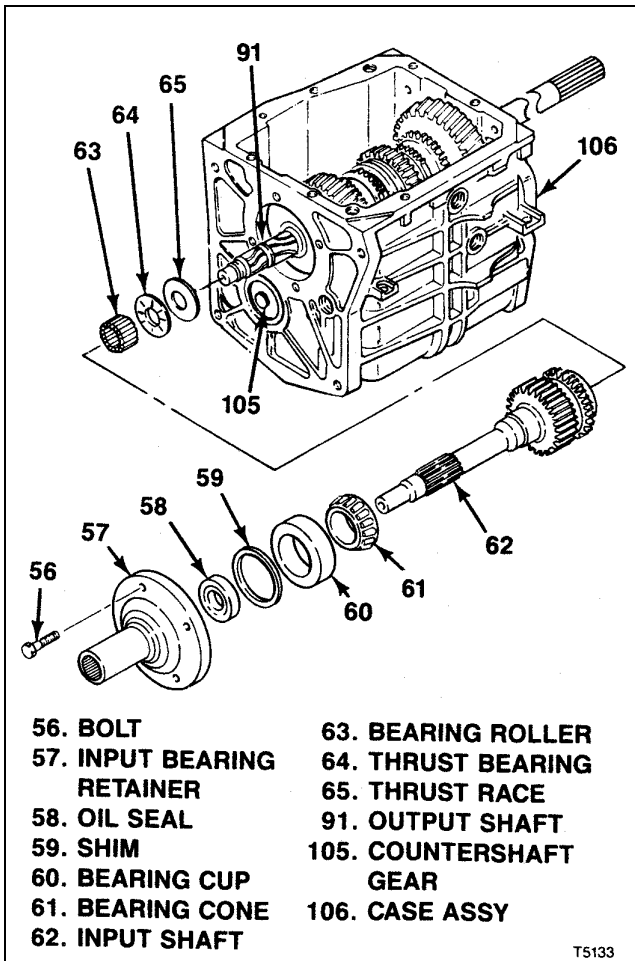

Figure 4-7. T5 STD Input Shaft
**4-13. REMOVAL OF T5 STD INPUT SHAFT.** Make alignment mark on input bearing retainer (57) and transmission case (106) and proceed as follows (see figure 4-7):
- a. Remove bolts (56).
- b. If necessary, use suitable knife to break sealant bond between input bearing retainer (57) and transmission case (106). Pull bearing retainer straight out.
- c. Use suitable puller to remove oil seal (58) from input bearing retainer (57).
- d. Remove shim(s) (59) and bearing cup (60).
- e. Rotate input shaft (62) to align flat on its clutch tooth ring with countershaft (105) and remove from transmission.
- f. If necessary, remove bearing cone (61) from input shaft (62) using suitable puller.
- g. Remove 15 bearing rollers (63) installed between input shaft (62) and output shaft (91).
- h. Remove thrust bearing (64) and thrust race (65) from end of output shaft (91).